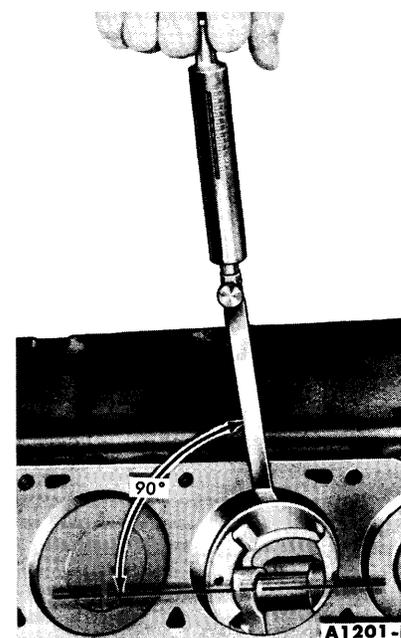

FIG. 67—Checking Piston Fit
5. Position the ribbon in the cylinder bore so that it extends the entire length of the piston at 90° from the piston pin location. Invert the piston and install it in the bore so that the end of the piston is about 1 1/2 inches below the top of the cylinder block and the piston pin is parallel to the crankshaft axis. Hold the piston and slowly pull the scale in a straight line with the ribbon, noting the pull required to remove the feeler ribbon (Fig. 67).